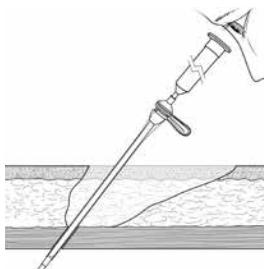

Figure 8
3. Confirm location of distal end of cannula and scope within the peritoneum (Figure 8).